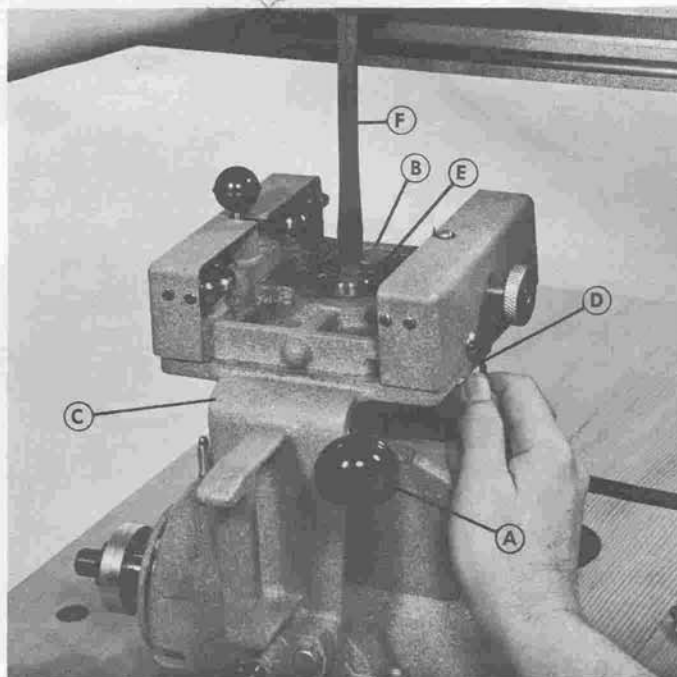

FIGURE 5
Check yoke and bearing carriage for tightness, see Fig. 5. If "play" develops between yoke (C) and carriage (B) it means that yoke clamp (A) requires re-setting.
3. Push yoke clamp handle (A) Fig. 5 to loosen. Also loosen dog point set screw (D) with wrench.